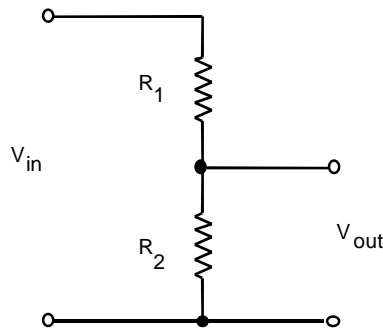

Figure 1-10
- \* Measure the values of the resistors shown in Figure 1-10, then wire up the circuit. Use the prototyping board. Use the 5-Volt power supply built into the prototyping board to supply  $V_{in}$ .